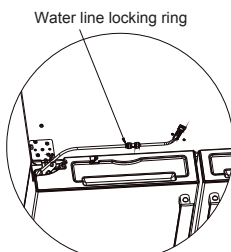

Figure 2
2. Press the water line locking ring into place, and then pull the left door water line from the connector by hand. See Figure 2.